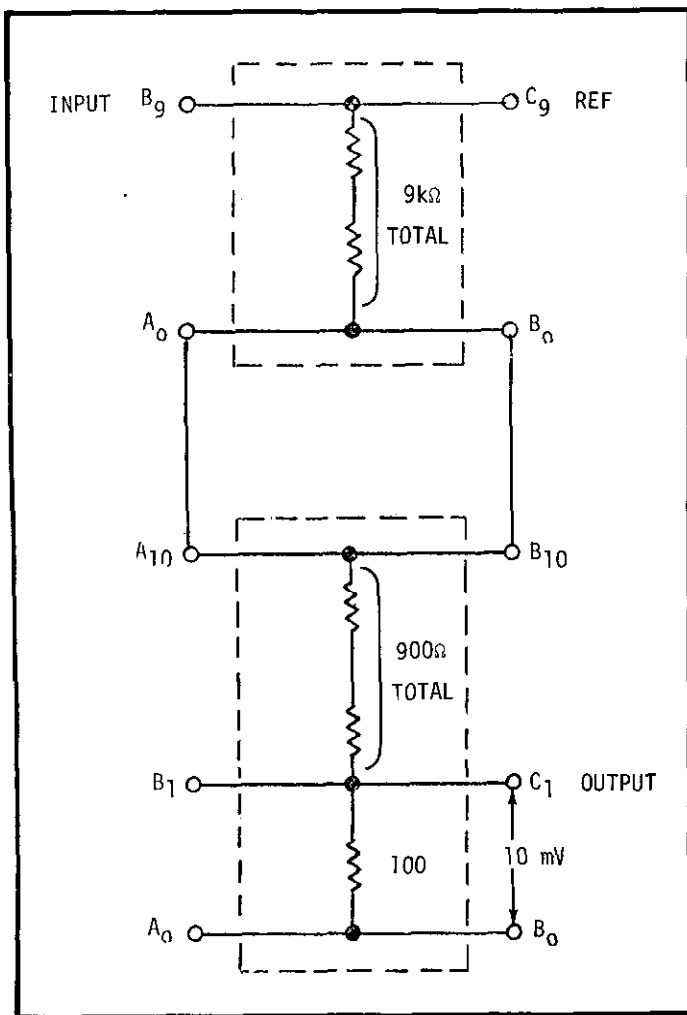

FIGURE 42. Voltage Divider Connections, 10mV Output.
- a). Connect Voltage Divider for 1:100 division ratio as shown in Figure 42.